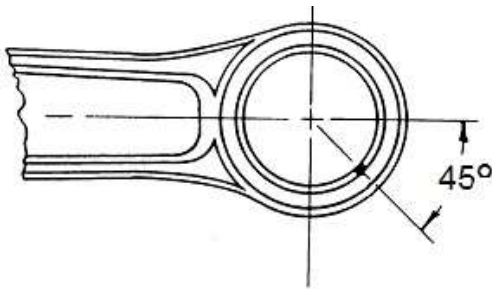

Figure 34
- E. Make sure the split in the bushing is located so that it is toward the piston end of the connecting rod and 45° off the centerline (Figure 34) and press the bushing into the connecting rod until the edge of the bushing is flush with the surface of the connecting rod.